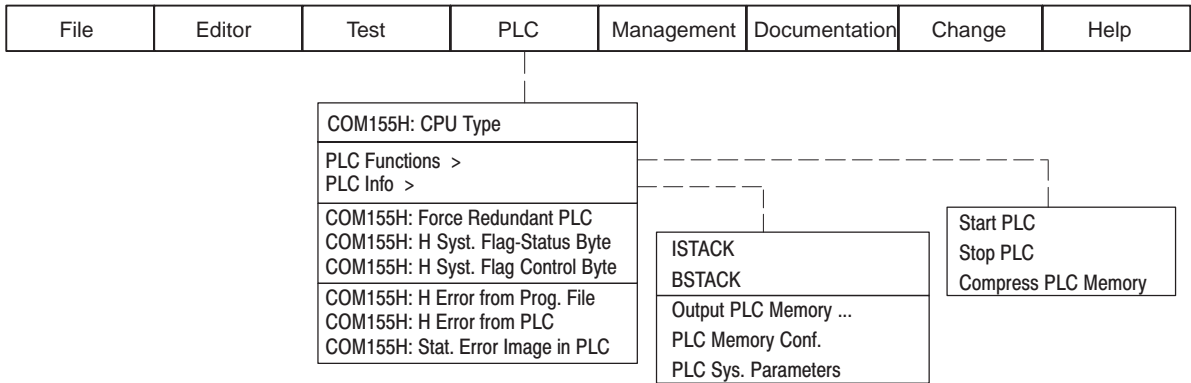

Figure 1-12 The COM 155H PLC Menu
**The PLC Menu** Figure 1-12 shows which COM 155H functions you can activate for diagnostics purposes on the S5-155H in addition to the STEP 5 test functions.